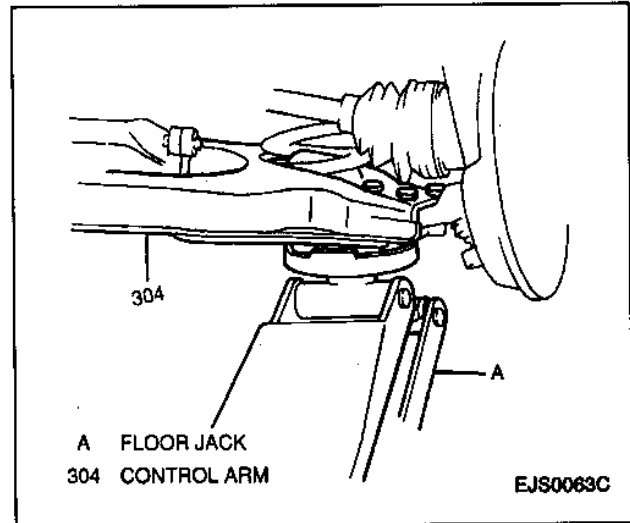

Figure 6—Supporting Control Arm With Floor Jack
4. Support control arm with floor jack (Figure 6).
- Support control arm with floor jack (Figure 6).